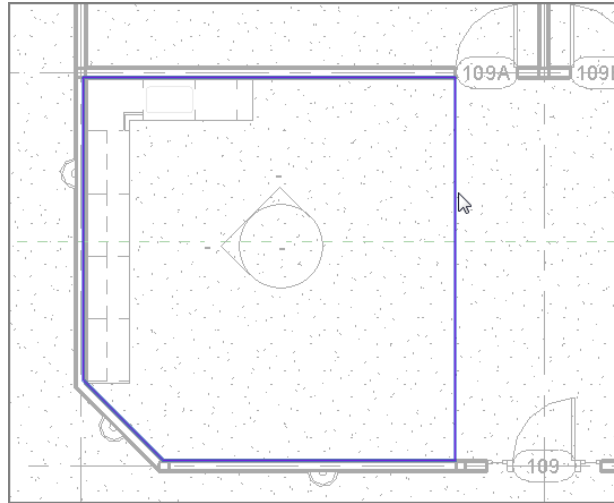

FIGURE 9.66: Drawing the perimeter of the alternate floor material
3. Click the Line button on the Draw panel. Draw a continuous line around the kitchen, as shown in Figure 9.66.